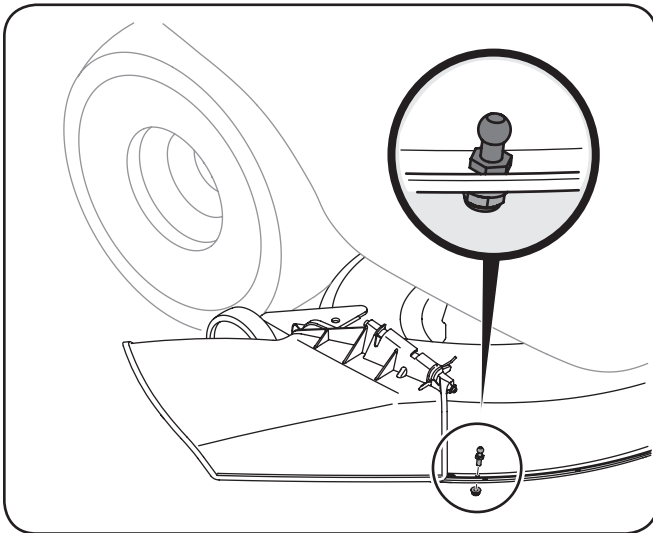

Figure 4-21
- Install the ball pin (711-04069) from hardware pack 689-00091 into the hole in the front of the mower deck as shown in Figure 4-21, and secure with the included flange lock nut (712-04064).